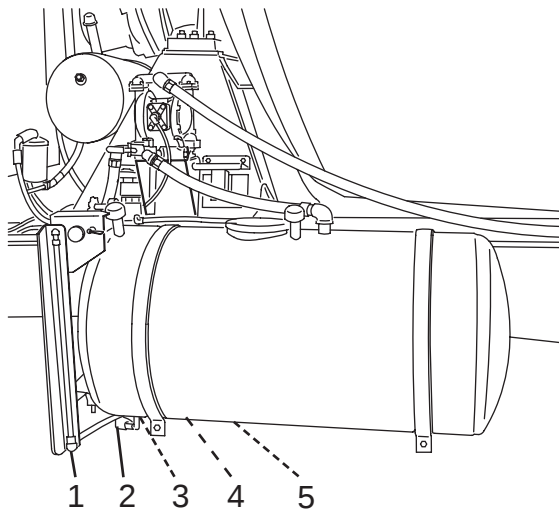

Figure 90
3. Remove the water tank drain plug(s) (Figure 90, Items 3 and 5), or open the drain valve(s) (if equipped).
4. Open the main tank (Figure 90, Item 4) and chemical tank (if equipped) (Figure 90, Item 2) sight glass isolator valves.
5. Open the sight glass drain valve(s) (Figure 90, Item 1).
6. When no more water comes from the tank drain(s), install the water tank drain plug(s) (Figure 90, Items 3 and 5).
7. Close the sight glass drain valve(s) (Figure 90, Item 4).